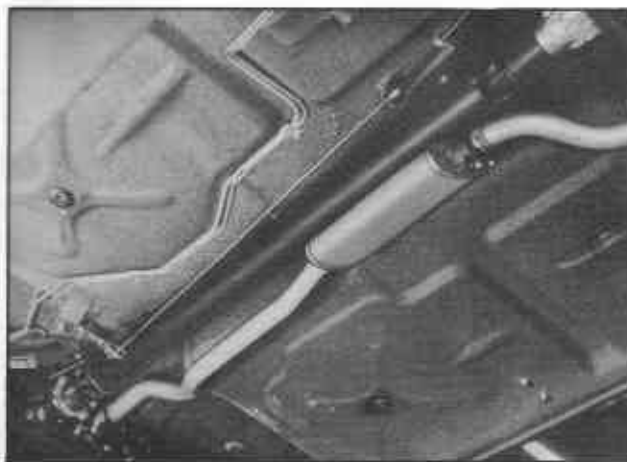

Fig. TM-6 Removing propeller shaft
3. Loosen the two exhaust center pipe clamps and turn the pre-muffler complete with center pipe to the left as shown in Figure TM-6. This will allow sufficient room for the propeller shaft to be removed.